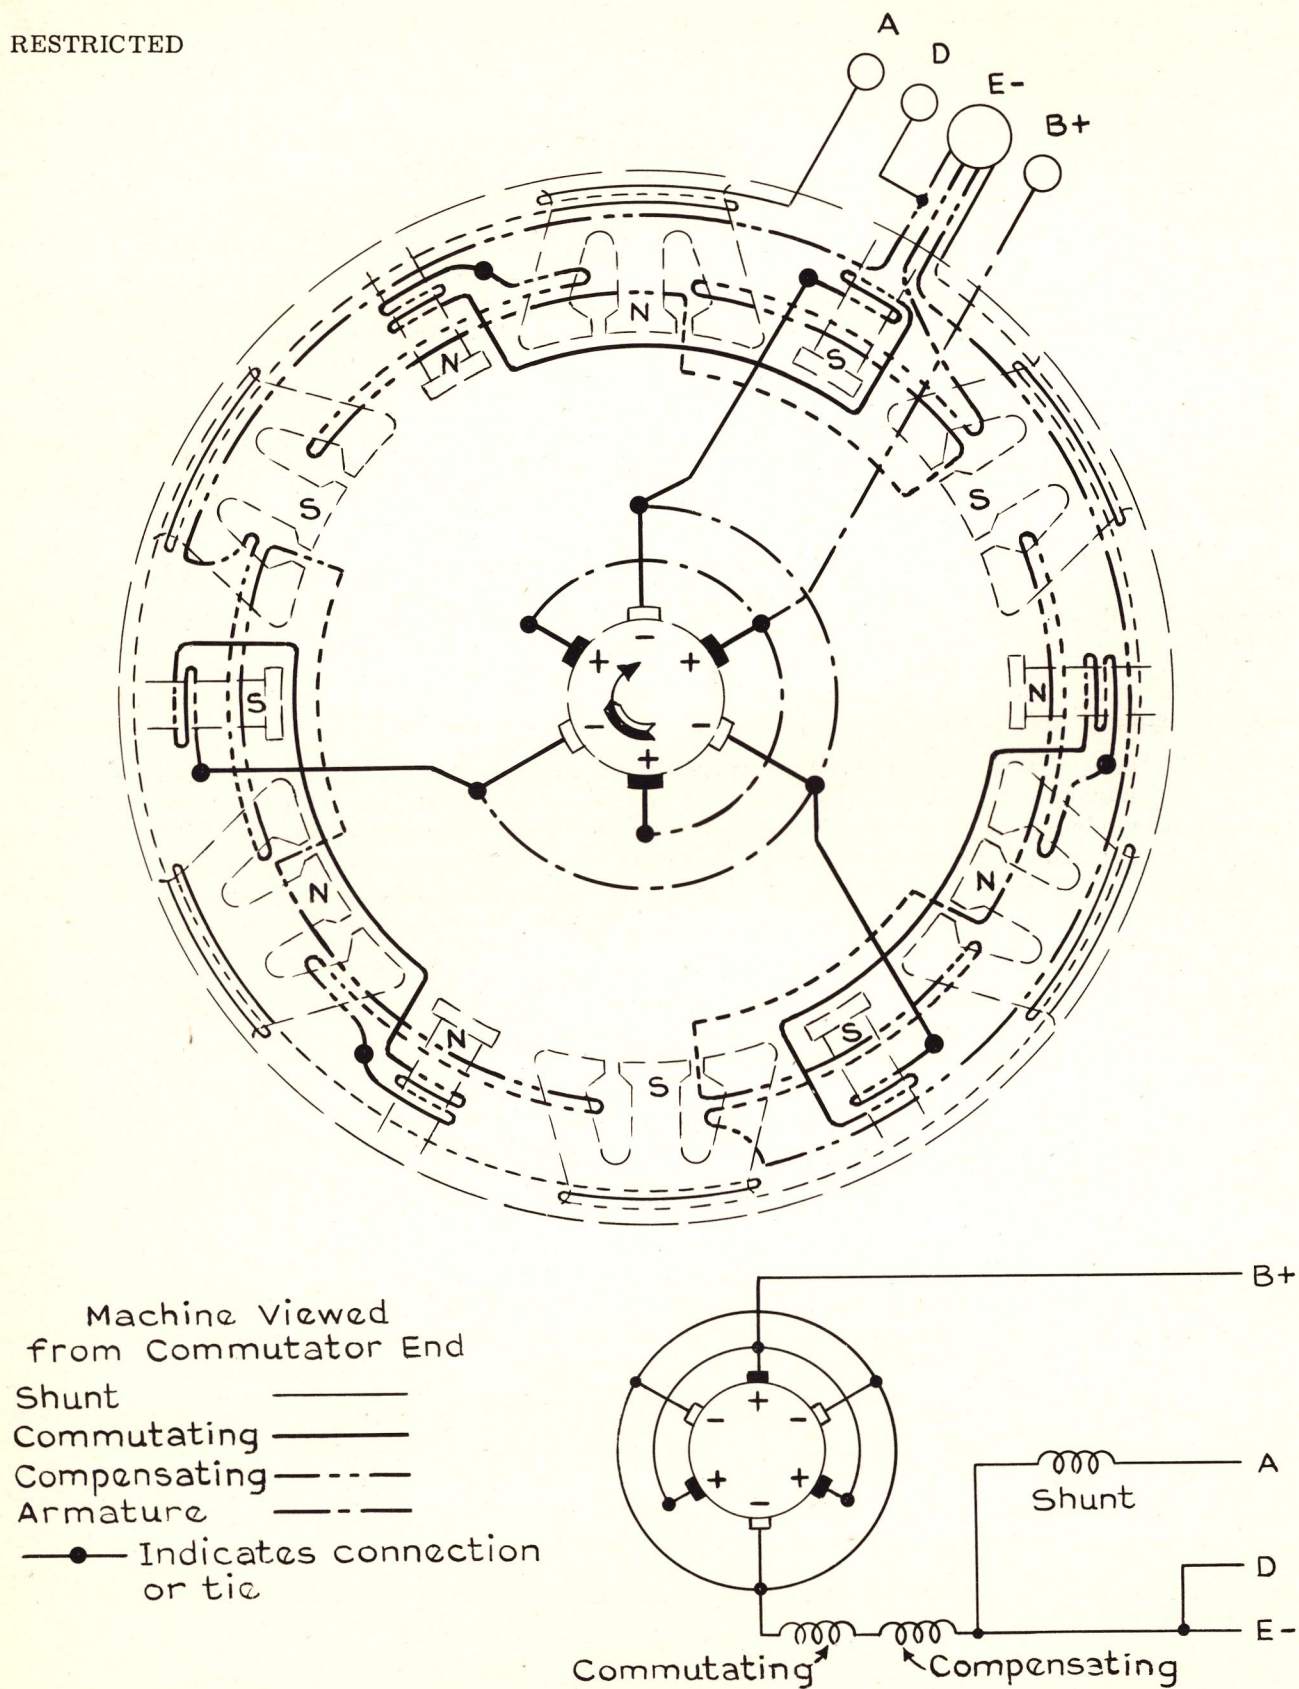

Fig. 5. Winding and Connection Diagram
a. The brush-rigging assembly (41) is made up of a brush-holder yoke (67), six brush-holder assemblies (60), cross connectors (49 and 53) and necessary insulating washers (45), bushings (47) and shear nuts (46). The brush-holder assembly (60) is a stainless steel fabricated assembly (61), brush springs (65) and cotter pins (66). The retaining strip (63) of the brush-holder-body assembly requires no barrier or spacer between brushes and thus permits ready removal of the brushes without disassembly of the generator. Brush-spring pressure is factory-set at 1 to 1 1/2 pounds. Brushes are specially treated to withstand operation at high altitudes.
5. CONNECTIONS (See Fig. 5)
a. The connections of the generator are shown in the winding and connection diagram, Fig. 5. Connections to the brushes are made by means of three leads from the field. All other internal connections are a part of the field. External connections are made to the connector receptacle, AN3102-32-1P.
a. The field assembly (74) is complete with terminal box and AN receptacle.
b. The armature (2) is reassembled as follows: Place the ball-bearing retaining plate (136) over the commutator end of the shaft and follow it with the ball bearing (135). The ball bearing should be heated to 225 F for 15 minutes. Force the bearing on the shaft by pressing it with a suitable collar held against the ball bearing inner race. Be careful not to allow dirt to get into the ball bearing. After heating, place the other ball bearing (134) on the drive end of the shaft and press it into place in the same manner. Add the ball-bearing lock washer (162) and the nut (25). When the ball bearings have to be removed, it is recommended that new bearings be reassembled onto the shaft.
c. Add one-half tablespoon of Royco No. 5 grease (Navy Aero. Spec. M-372 Grade C) to the bearing cavity of the mounting flange. Grease the drive-end and commutator-end ball bearings by filling the races one-half full of Royco No. 5 grease (Navy Aero. Spec. M-372 Grade C). Clamp the core (3) of the armature firmly in a padded vise. Place the mounting flange over the ball-bearing outer race and gently tap the flange into position.
d. Connect the brush rigging (41) to the field leads. The cross connector (50) on the outside of the brush rigging connects the negative brushes, which are connected to the field leads. The heavy B lead from the terminal box is connected to the center terminal of the inside cross connector (53). The inside cross connector connects the positive brushes. See Fig. 5.
e. Insert the armature (2) assembled with the mounting flange (70) carefully through the bore of the field (74) starting from the end opposite the connector assembly (119).
f. Tap the bearing support (69), in the brush-rigging assembly, with a rawhide mallet, to seat it firmly over the commutator-end ball bearing (135). It is recommended that the brush rigging be safety wired at this time.
g. Align the four holes in the ball-bearing retaining plate (136) with the four holes in the brush-rigging assembly. Install the four screws (163) and safety wire.
h. Slip the commutator-end shield (40) over the brush rigging and secure the commutator-end shield to the field assembly with six screws (171).
i. Line up the paint mark on the brush-rigging assembly with the paint mark on the commutator-end shield and hold the brush rigging in place with the three screws (166) and the three special clamping plugs (165). A special clamp (164) is provided to prevent lugs from turning.
j. Place bushing (161) over the commutator end of the shaft (23). The washer (29) and nut (28) holds the bushing tightly against the inner race of the ball bearing (135). As the outer race of the
k. Replace brushes in their original positions. To insert the brushes, lift the loop on the brush springs (65) using a hook made of stiff wire. Care should be taken that the brush spring is not given a permanent set.
q. The generator is assembled for forced ventilation. After "FINAL TEST," place the air-blast cover (139) over the commutator end of the generator and clamp in place.
b. Set the brush position on "inductive neutral" (which is the no-load magnetic neutral). This is done with the generator at rest. Apply approximately 6-24 volts direct current between terminal E and A, Fig. 5. Read the voltage across two adjacent brush-holder assemblies by means of a millivoltmeter. The needle of the meter will "kick" each time the circuit is opened or closed. Move the entire brush-rigging assembly (41) until no "kick" of the needle is obtained. This position is "inductive neutral."
f. To check for output voltage and polarity, drive the generator at 2500 rpm. If the generator does not build up, apply voltage to the fields as in paragraph 4-b, except that positive polarity is connected to A and the negative polarity is connected to E, Fig. 5. The generator should then build up to at least 15 volts.